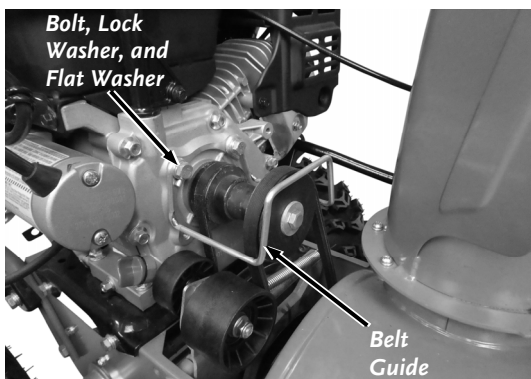

Figure 53
2. Remove the two Bolts, Lock Washers and Flat Washers that secure the Belt Guide to the Engine using a 13mm Wrench and remove the Belt Guide (**Figure 53**).